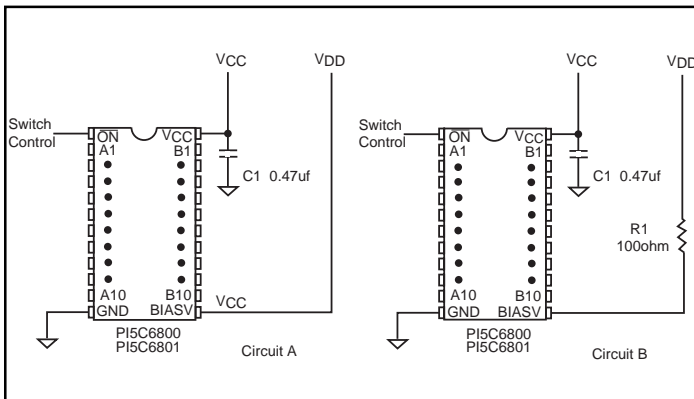
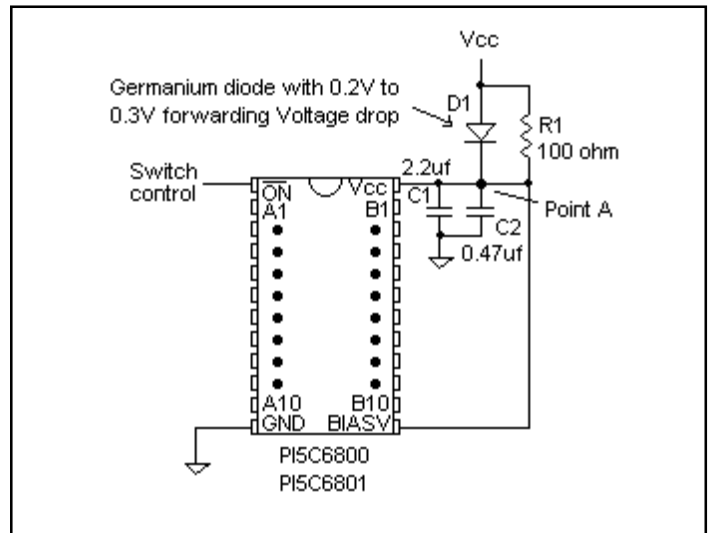

Figure 2. The Power Sequencing Protection Circuit using Resistor
Figure 3. The Power sequencing protection circuit using Germanium diode for PI5C6800 and PI5C6801
on the BX side (see Figure 2.). In normal conditions, on power up, the VCC and V-bias should reach the PI5C680X at the same time. If the VDD reaches the BIASV pin earlier than the power reaches the VCC pin (see the circuit A, Figure 2), the VDD at pin BIASV will shorten to ground through the VCC pin and will damage the internal circuit at the pin BIASV. Adding a 100ohm resistor connected between VDD and pin BIASV will limit the current and prevent this potential problem (see circuit B, Figure 2).
2. If the logic signals on BX come earlier than the VCC power on PI5C680X, the signals on BX will shorten to ground through the VCC pin, and could damage the internal circuit at BX. If the BX pins are connected to a pull-up bus (PCI bus for example), the situation discussed above will affect the logic status of that bus. Adding a diode on the VCC pin in Figure 3. will prevent this potential problem.
The circuit in Figure 3. will protect both of the power sequencing problems above. Therefore, the circuit in Figure 2. is not needed if using the circuit in Figure 3.
Circuit Analysis for Figure 3.
- $R1$ in Figure 3. is to reduce the V_{CC} drop on $D1$. It will reduce the V_{CC} drop to 0.005V when quiescent mode. The voltage drop on $D1$ is 0.2V when the switching frequency at pin “/on” is lower than 10mhz.
- $C1$ and $C2$ in Figure 3. must be as close to the V_{CC} and GND pins of PI5C6801 as possible to minimize the V_{CC} ripple and ground bounce.
If the V_{DD} voltage at pin BIASV comes earlier than the V_{CC} voltage at the V_{CC} pin; or if the signals at BX come earlier than the V_{CC} voltage at V_{CC} pin, a diode as in Figure 3. is needed to prevent the shorten current through V_{CCD} pin to ground.